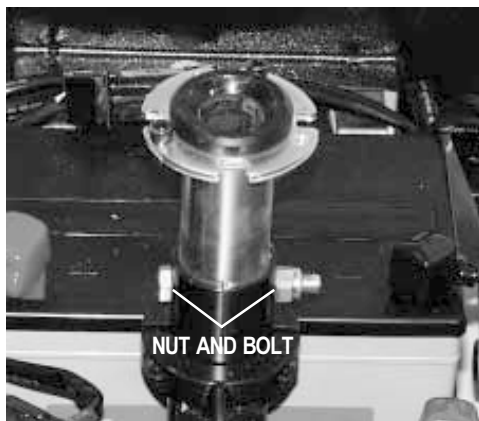

Figure 13. Seat Tower Nut and Bolt
2. Remove the nut and bolt from the seat tower. See figure 13.